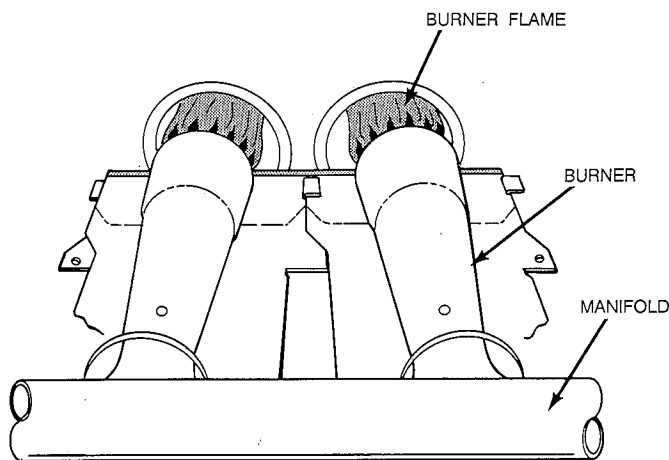

Fig. 15—Burner Flame
- (3.) When correct input is obtained, replace regulator seal cap. Main burner flame should be clear blue, almost transparent. (See Fig. 15.)